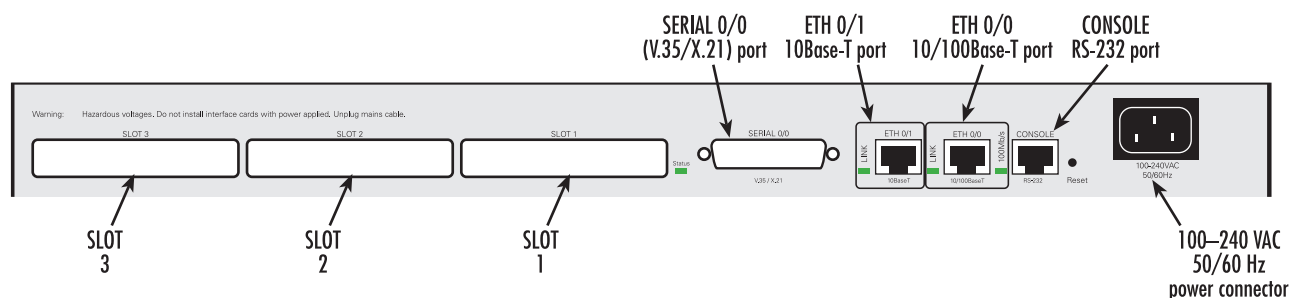

Figure 57. SmartNode 2300 connectors
1. Installing the 10Base-T Ethernet cable into port *ETH 0/1* or 10/100Base-T Ethernet cable into port *ETH 0/0* (see figure 57) (see “Installing the Ethernet cables” on page 97)